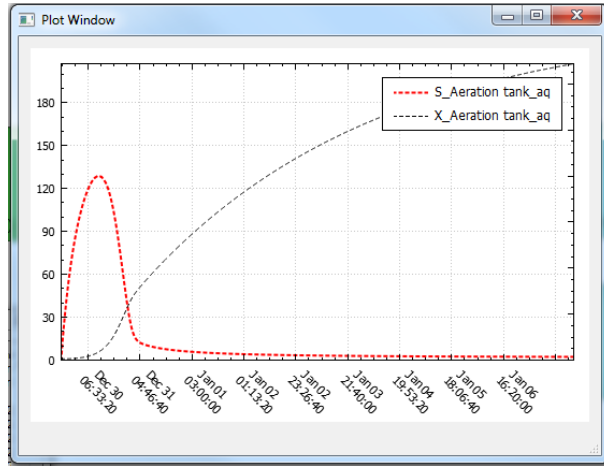

Figure 7: S and X variation in the simple ASM model
14. **Inspecting the results:** Right-click on the **aeration tank** and click **Water quality results**→**S** to see the variation of substrate in the aeration tank. Do the same thing for **X**. Similar to the previous example you can copy the two graphs unto each other (Figure 7).